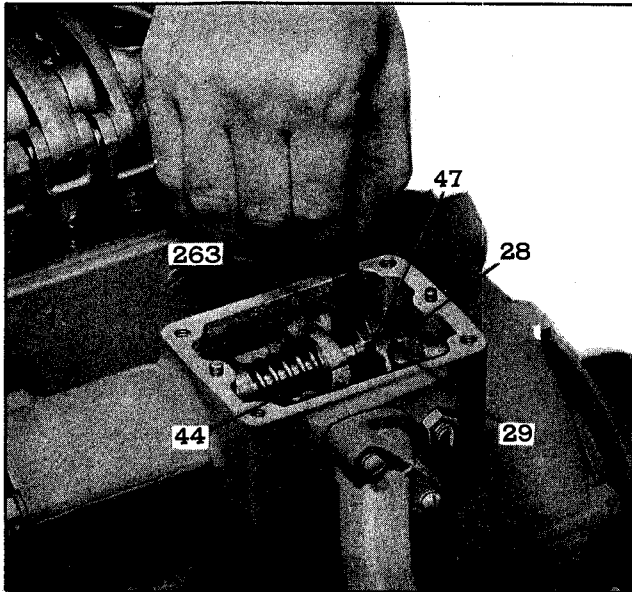

Fig. 4—Adjusting Governor Gap—Tool J 5407.
- Using tool J 5407, check the gap between the low speed spring cap (47) and high speed spring plunger (44), as shown in Fig. 4.
- If required, loosen lock nut (29) and turn gap adjusting screw (28) until a slight drag is felt on gauge.